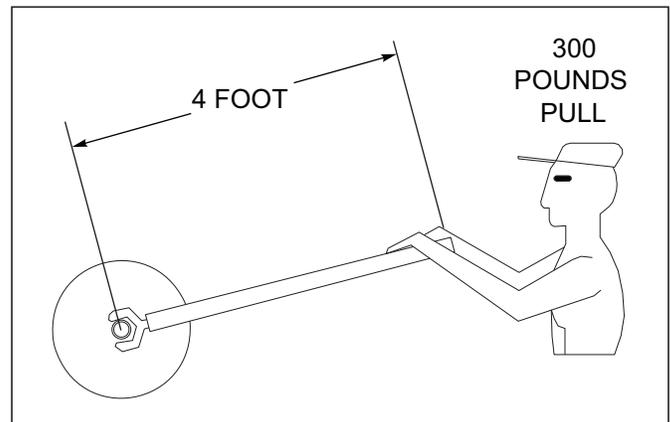

Figure 4-9: 1,250 Foot-Pounds of Torque
3. When reassembling the disc gang, remove any soil or mud from the disc blades and spools to ensure a clean surface when tightening the gang. Clean the gang threads and install the gang nut. Torque the disc gang shaft to a minimum of 1200 ft-lbs See Figure 4-9.